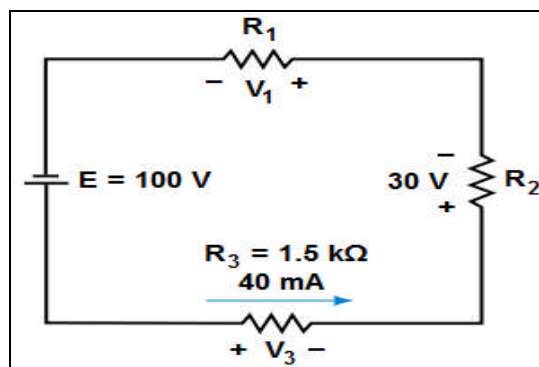

Fig. 1.2-19 Exercise 8
- Determine for the unknown voltages in the circuit of Fig. 1.2-19